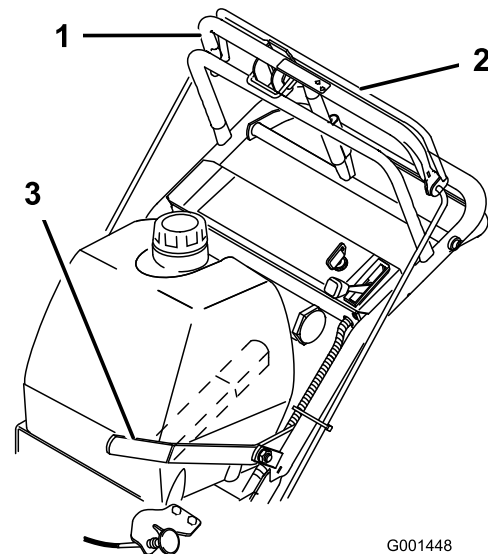

Figure 8
1. To engage the blades, squeeze blade control bail against the upper control bar (Figure 8).
To disengage the blades, pull the blade control lever rearward all the way (Figure 8). The engine will kill when the blade control bail is released with the blade control lever engaged.